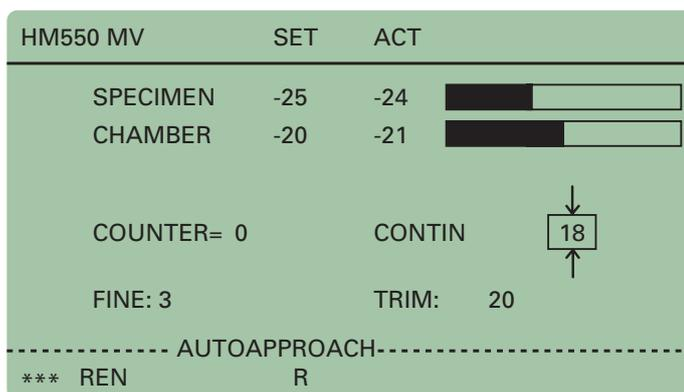

Figure 24. Display: Automatic approach process.
- The red LED in this button (fig. 25.2) lights up and confirms the chosen function and AUT.APPROACH is shown in the status line on the display (fig. 24).